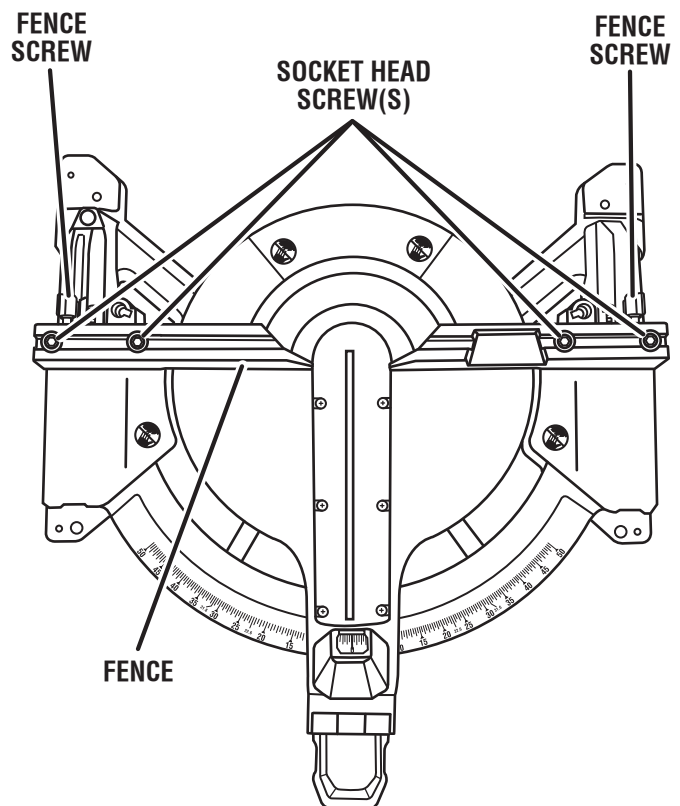

Fig. 16
See Figures 16 - 20.
- Loosen the socket head screws that secure the fence to the miter table. See Figure 16.